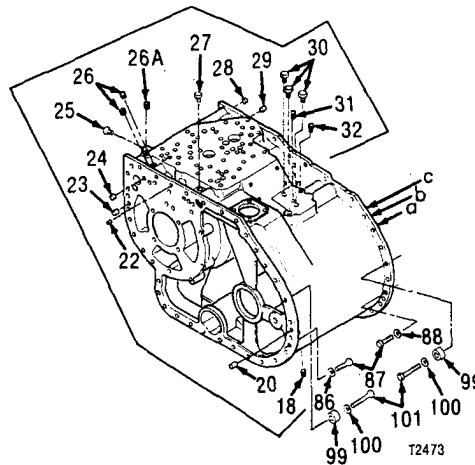

Figure 375.1. Addendum to Figure 375 (fold-out 4)
- 26- Change qty to (2) (see fig. 375.1)
- 26A- Change Pipe plug (see fig. 375.1)
- 30- Change qty to (3) (see fig. 375.1)
- 32- Change qty to (1) (see fig. 375.1)
- 99- Add Spacer (5) (see fig. 375.1)
- 100- Add Lockwasher (5) (see fig. 375.1)
7/16-14 UNC - 2A x 1-3/4 inch (5) (see fig. 375.1)